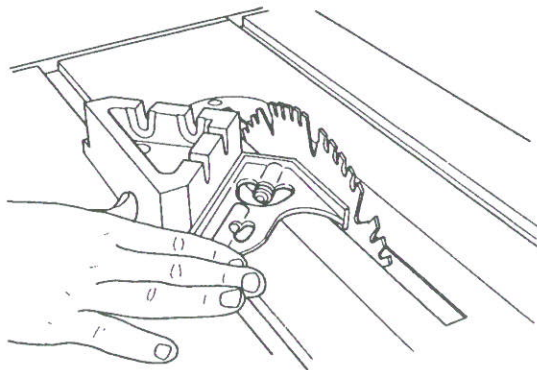

Fig.2
5. "Flip" the square to the outfeed side, as shown in Fig.2, and look for any gaps between the blade and the square.
- Use the large Phillips screwdriver to slightly loosen the screws (3) attaching the guide bar to the casting.
- Adjust the casting (1) until there is no more gap between the combination square and either the blade or the casting.
- Tighten the screws (3).